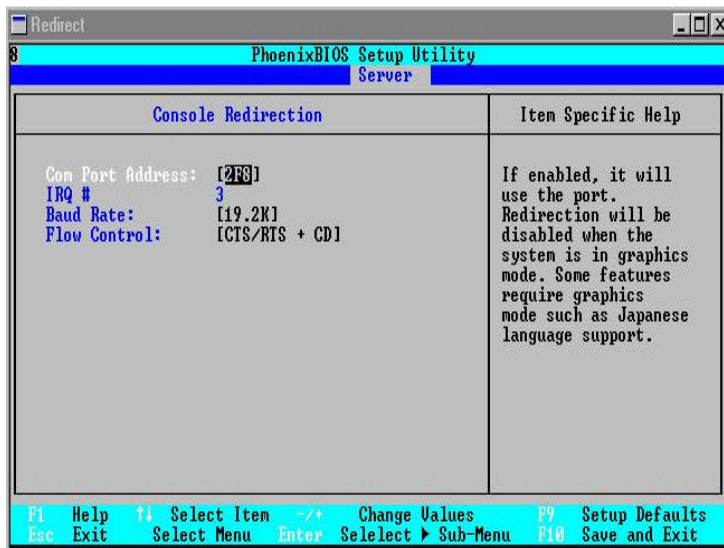

Figure 3: Console Redirection Screen
12. Select “**Console Redirection**”. See Figure 3.